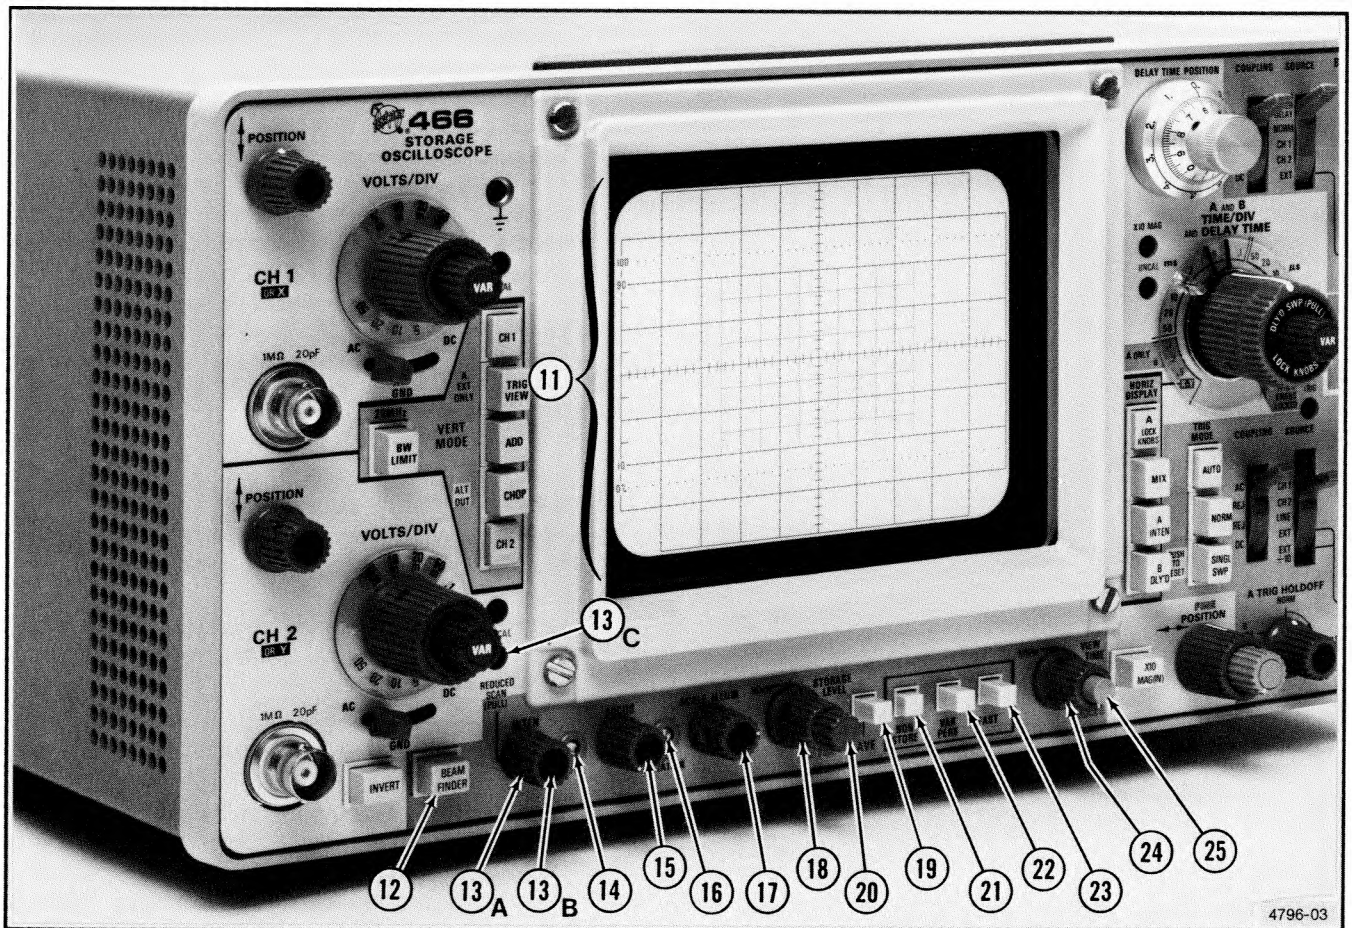

Fig. 2-3. Display and Storage sections.
Refer to Fig. 2-3 for location of items 11 through 25.